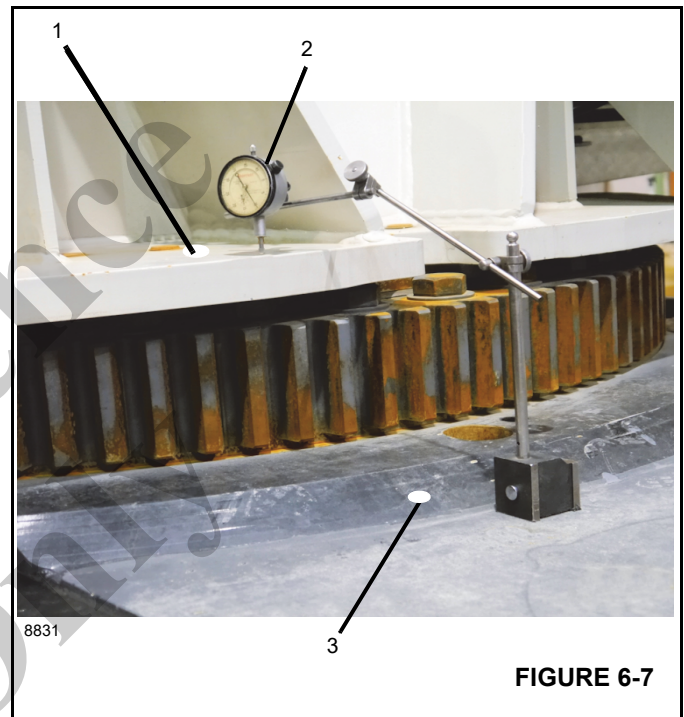

FIGURE 6-7
2. Put a dial indicator (2, Figure 6-7) opposite the boom on the T-box frame (3).
3. Place the dial on the top of the turret bearing plate (1, Figure 6-7).